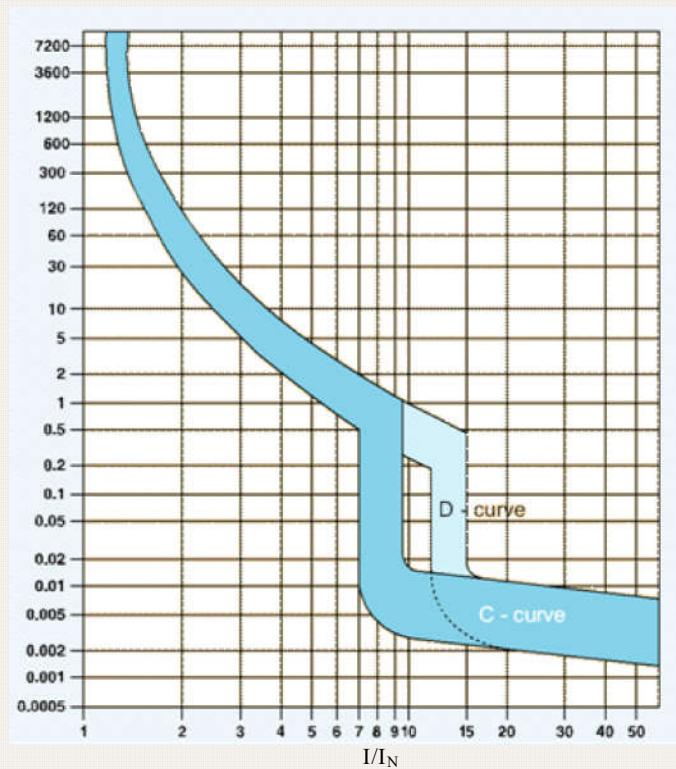

figure 7. – www.clipsal.com
4. Draw on figure 7 a line to show the multiple of rated current. Will the circuit breaker operate (trip), if so in what time? Y / N	Max _____ Min _____